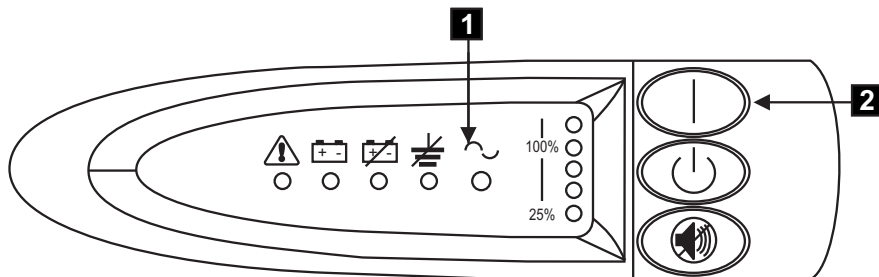

Figure 79. Power switch and indicators of the uninterruptible power supply 5125
10. All the front panel indicators (see Figure 79) flash for a short time while the UPS 5125 runs a self test. When the test is complete, the mode indicator, **1** in Figure 79, flashes to show that the UPS 5125 is in standby mode.
Press and hold the UPS 5125 on the switch, **2** in Figure 79, until you hear the UPS 5125 beep (approximately one second). The mode indicator stops flashing and the load level indicators display the percentage of load that is being supplied by the UPS 5125. The UPS 5125 is now in normal mode and is charging its battery.